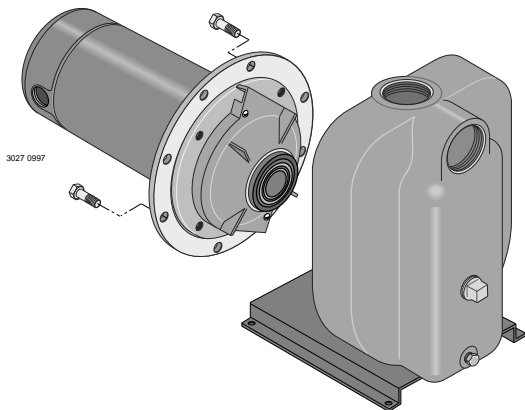

Figure 14 – Slide Motor Back
Pump and piping need not be disconnected to repair or replace motor or seal (see Figure 14). If motor is replaced, replace the shaft seal (Key No. 7, Page 12). Keep one on hand for future use.
2. Remove capscrews holding seal plate to pump body. Motor assembly and seal plate can now be pulled away from pump body (Figure 14). CAREFULLY remove gasket.